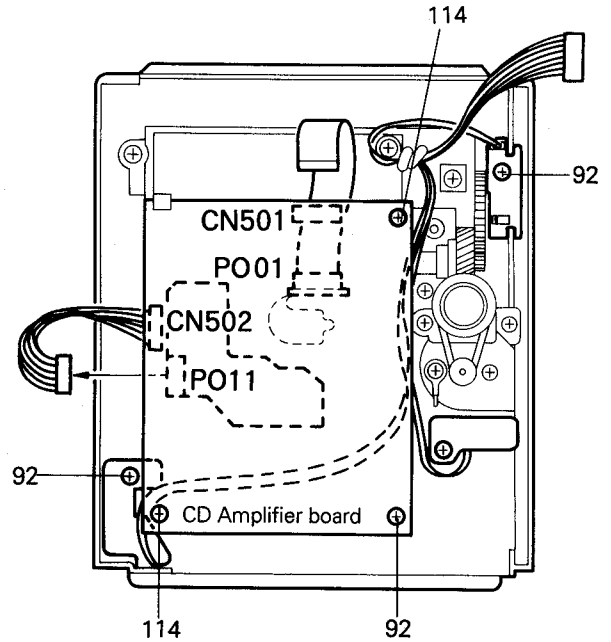

Fig. 7-17
■ CD Amplifier board (Fig. 7-17)
1. Remove three screws (114) retaining the CD Amplifier board to the CD case.
■ CD Door, Door Close and Door Motor Switch boards (Fig. 7-17)